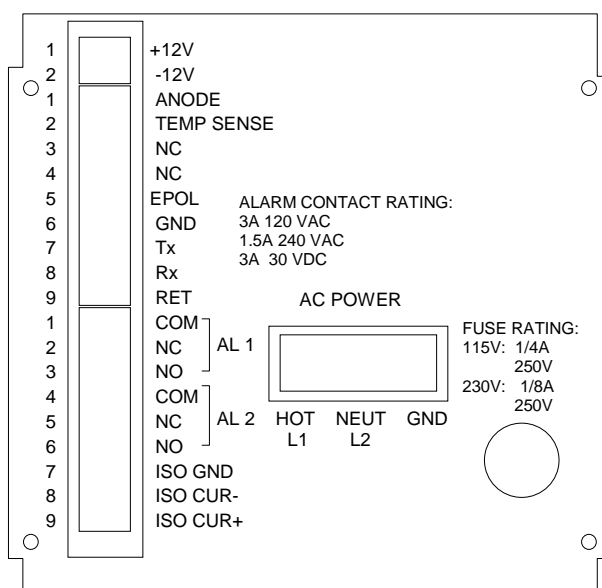

FIGURE 2-2. MODEL 7003M REAR PANEL CONNECTIONS
All electrical connections to the analyzer are made on the Power Supply Board connection panel (see Figure 2-2 and drawing 652683), which is accessed by removing the rear cover.
4. Refer to Figure 2-2. Using a flat-blade screwdriver, connect the wires of the sensor cable to the TB2-1, TB2-2, TB2-5 and TB2-6 on the rear panel of the analyzer.
Connect power wiring to the compression type connectors on the rear panel (Figure 2-2) as follows:
2. Connect the shielded recorder cable leads to the rear panel of the analyzer (Figure 2-2):
4. Connect leads of a shielded recorder cable to the rear panel of the analyzer (Figure 2-2):
2. Connect leads from the external alarm or ON/OFF Control system (see Figure 2-2).